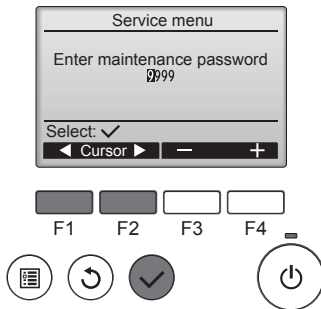

Fig. 7-3
- ① Select "Service" from the Main menu, and press the button.
- ② When the Service menu is selected, a window will appear asking for the password. (Fig. 7-3)